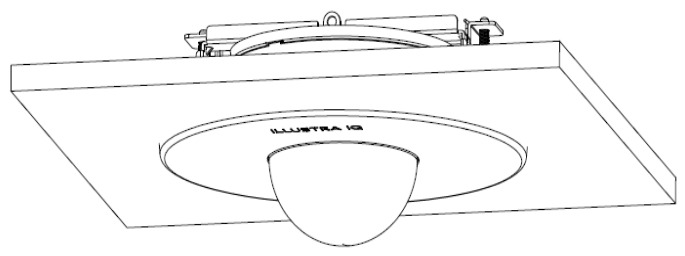

Figure 6
**Note:** See the completed installation below in Figure 6.